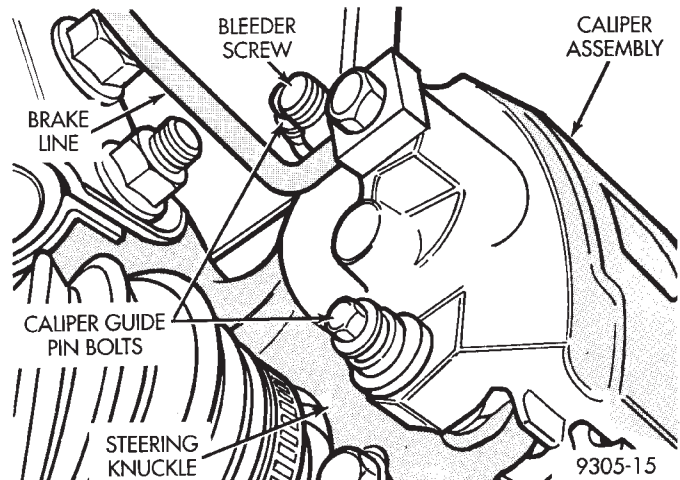

**Fig. 29 Disc Brake Caliper Mounting**
(1) Raise vehicle on jackstands or centered on a frame contact type hoist. See Hoisting in the Lubrication and Maintenance section of this manual, for the required lifting procedure to be used for this vehicle.
(2) Remove the front wheel and tire assembly from the vehicle.
(3) Remove the 2 guide pin bolts mounting the caliper assembly to the steering knuckle (Fig. 29). Remove the caliper from the front steering knuckle. Refer to Disc Brake Caliper in the Removal And Installation Section in the Brake Group of this service manual for the caliper removal procedure.
pin bolts (Fig. 29) and tighten to a torque of 19 N·m (168 in. lbs.).